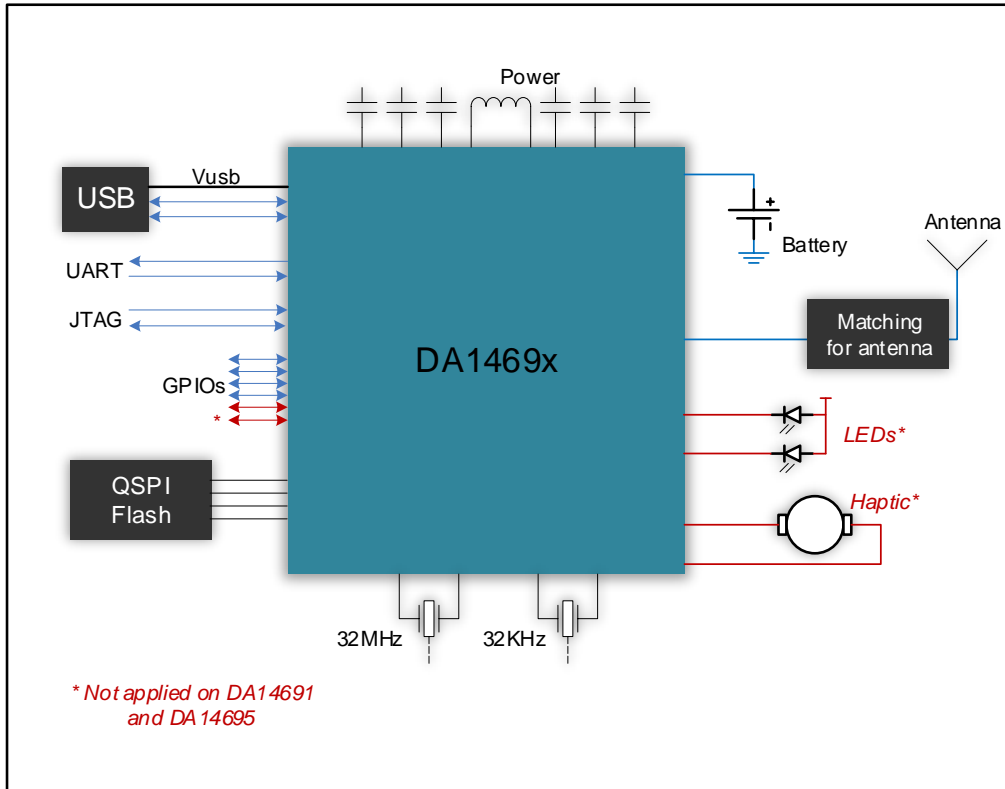
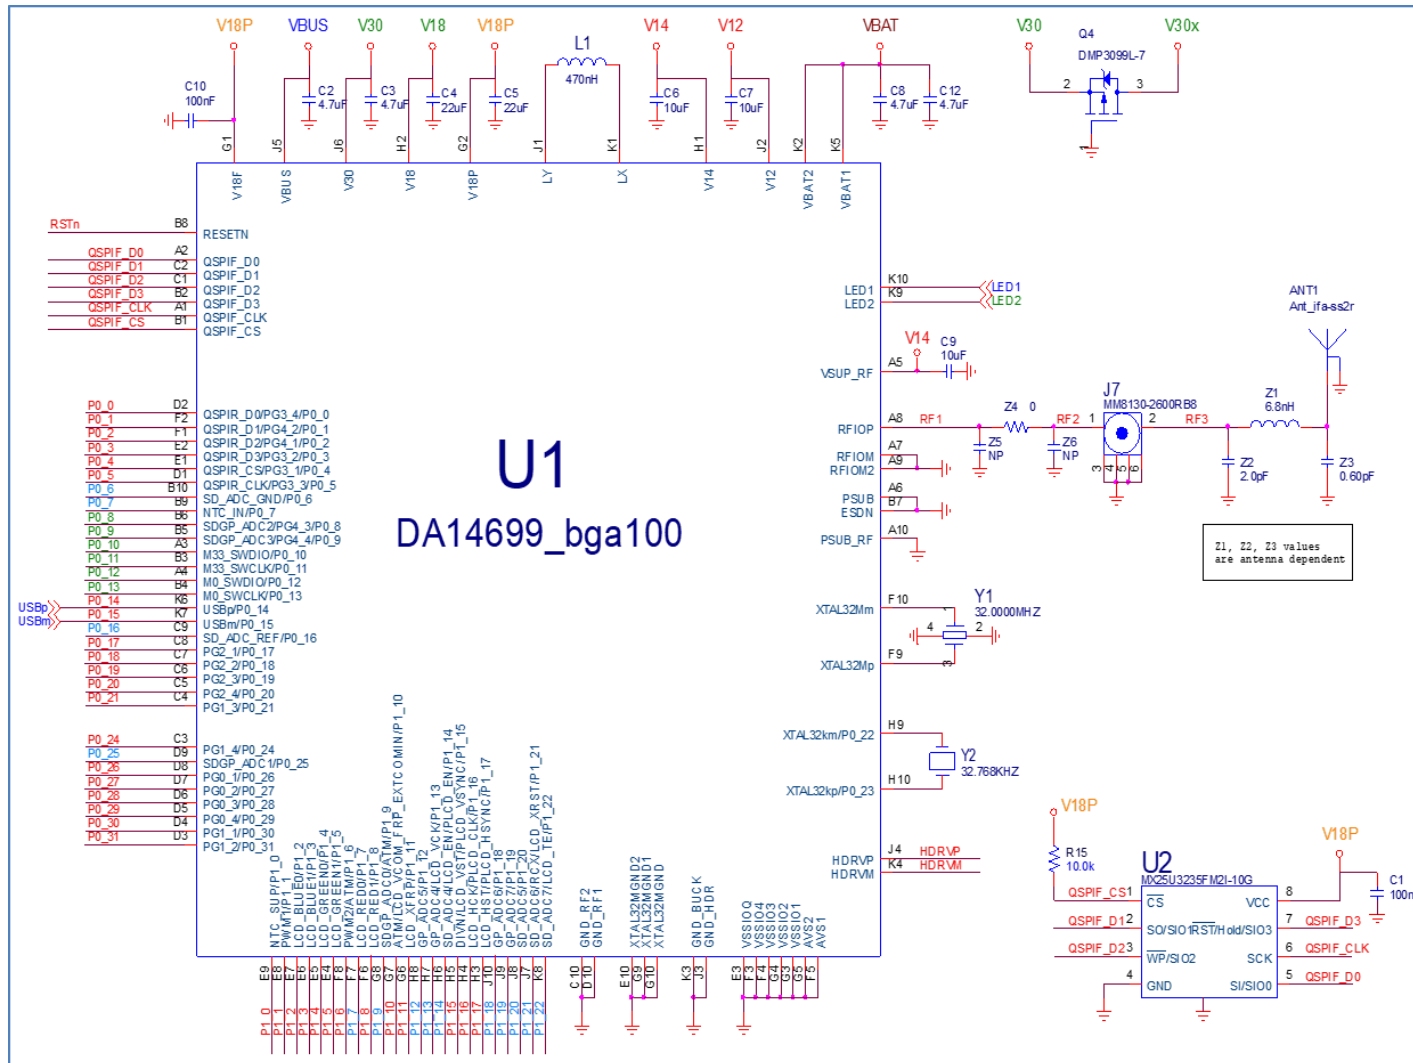
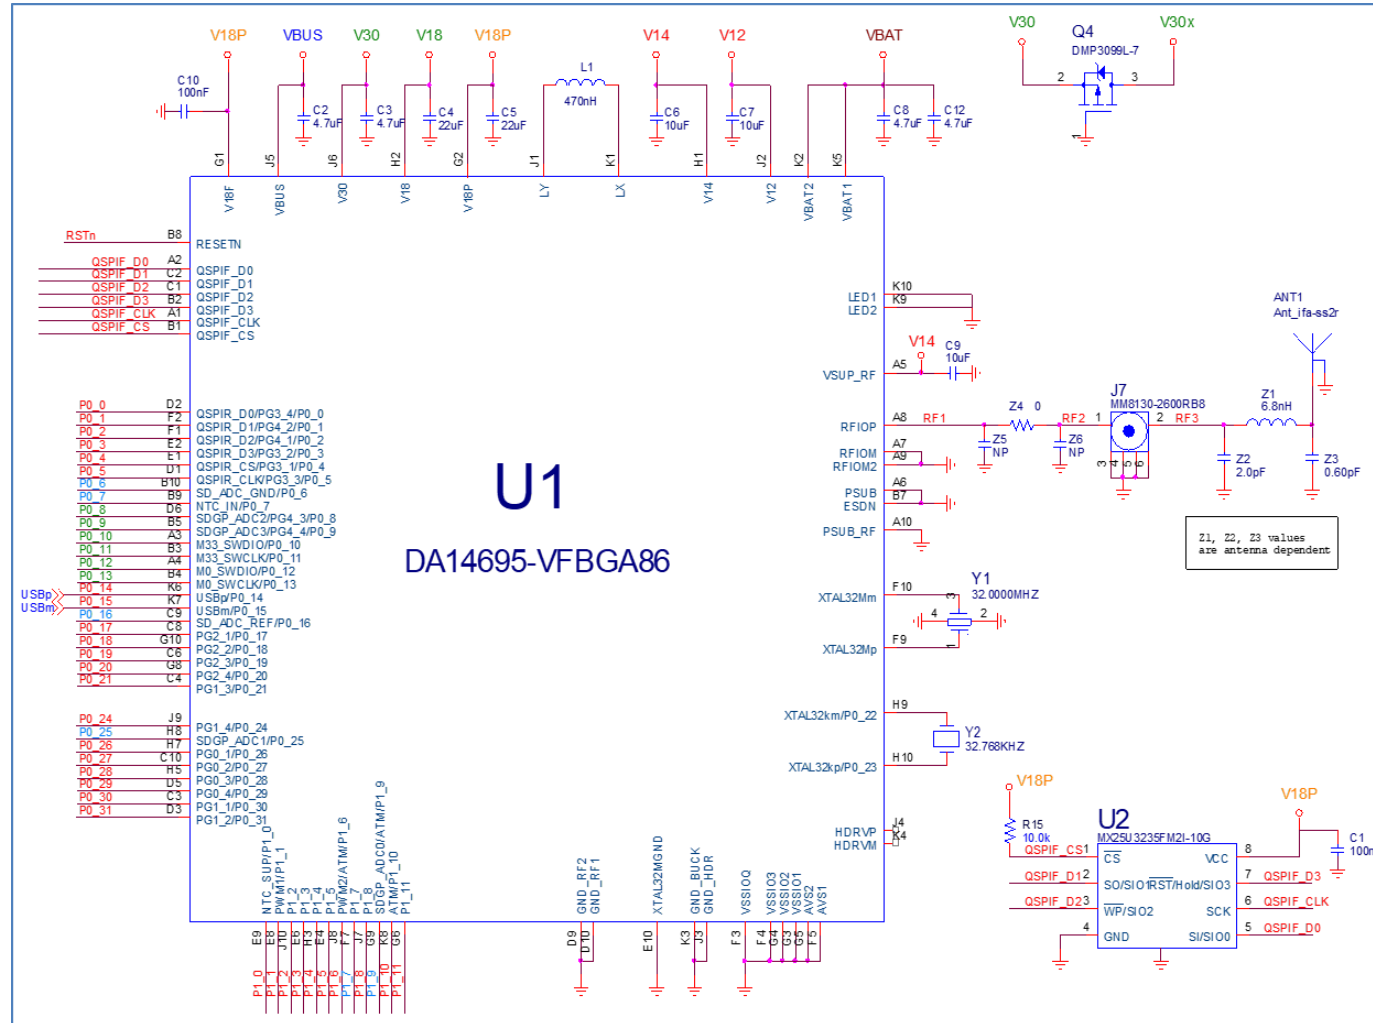
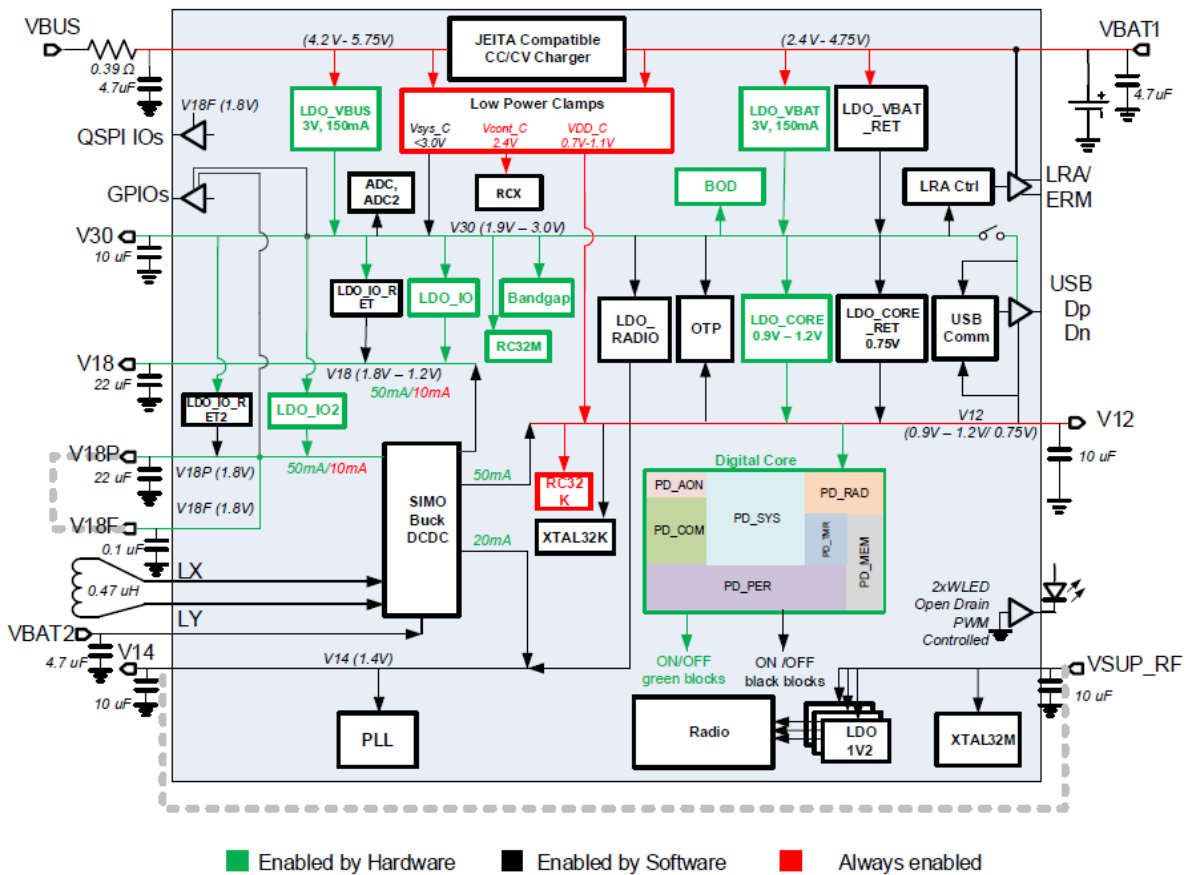

Figure 2: Block Diagram of DA1469x Minimal Design
Figure 3: Minimal Design for VFBGA100 Package
Figure 4: Minimal Design for VFBGA86 Package
Figure 5: DA1469x Power Management Unit Block Diagram
The block diagram of the DA1469x minimal design and the basic schematics for the two packages, VFBGA100 and VFBGA86, are presented in Figure 2, Figure 3, and Figure 4 respectively.
Optional extra functionalities like GPIOs, LEDs, and Haptic have been added to indicate the main differences between the two packages on an application level: Figure 2.
There are certain parts of the power management unit (PMU) which are always powered. They are marked red in Figure 5. The always-on power circuitry consists of two clamps and LDO\_SLEEP, which provides the necessary voltage when the system is in extended sleep, deep sleep, or hibernation mode. When the system wakes up, many of the PMU blocks are activated automatically (in green). Finally, software is responsible for activating the SIMO DCDC and the blocks marked in black in Figure 5.
Note that, all the capacitor values in above Figure 5 are the nominal, rated values. When a power source is available on the VBUS pin, the DA1469x system is supplied by the LDO\_VBUS. This is independent on whether a battery is connected to the VBAT pin, unless the VBUS voltage drops below 4 V and the VBAT voltage is higher than the VBUS voltage.
**V18F:** This is the QSPI Flash supply and the QSPI interface voltage from the **V18P** rail through an internal switch. As this MOSFET switch may present a high resistance at higher temperatures, it is advised to short the V18P and V18F rails externally, bypassing the internal switch (Figure 5). The decoupling capacitor C10 (100 nF) at the V18F pin may be omitted after shorting the V18F pin and the adjacent V18P pin on the PCB and placing C5 (22  $\mu$ F) close to the V18F pin. A 100 nF decoupling capacitor (C1 in Figure 3, Figure 4) near the Flash supply pin is required.
**VSUP\_RF (V14\_RF):** The radio supply pin. VSUP\_RF must be connected to the **V14** rail externally (Figure 5) and it powers the RF circuits via several dedicated internal LDOs. A 10  $\mu$ F/6.3 V decoupling capacitor (C9) is required to be placed as close to the VSUP\_RF pin as possible for the best and most stable RF performance.
When supplying the DA1469x SoC with fixed VBAT supply voltages of 3.3 V or lower, it is advised to connect the VBAT1, VBAT2 and the V30 rails together to avoid a possible small LDO\_VBAT (Figure 5) drop-out voltage from the VBAT1 supply to the V30 rail.